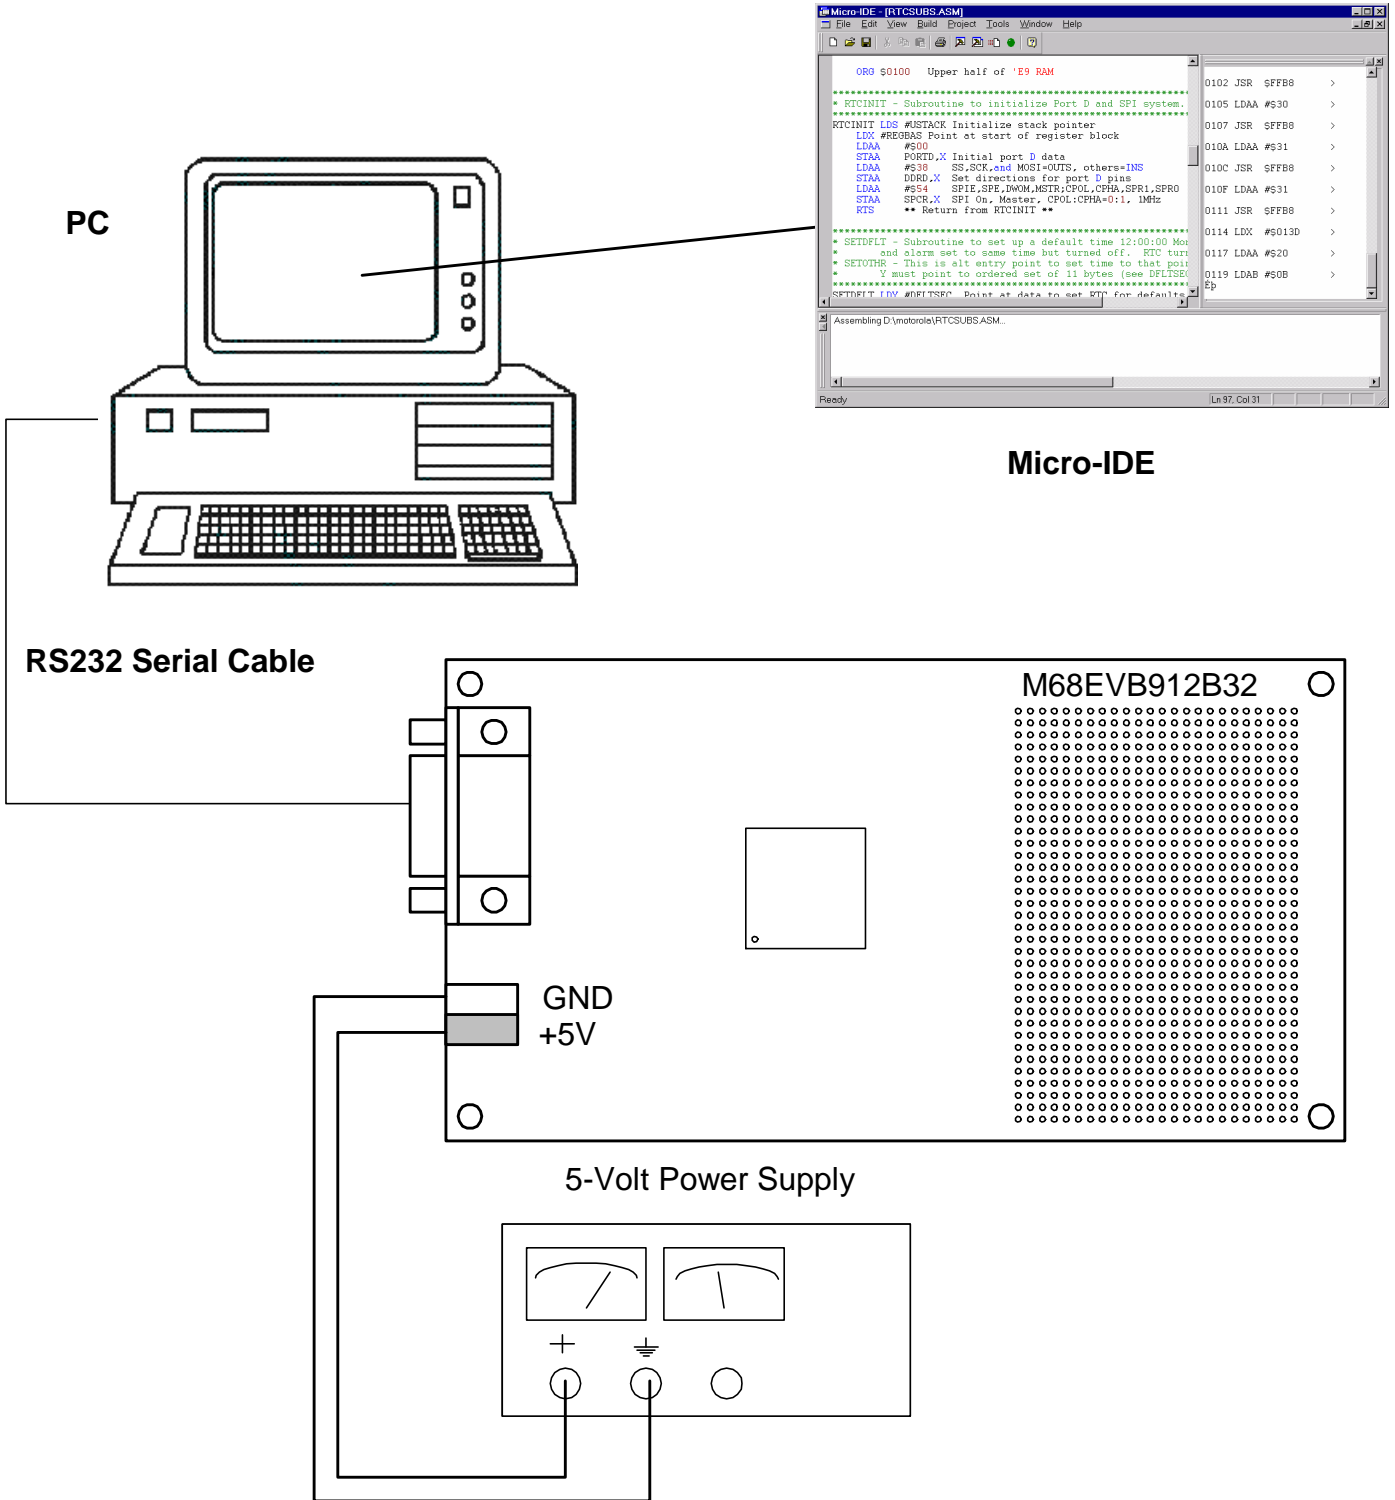

Figure 1
2. While the 5-Volt Power Supply is off, connect the power supply outputs to the Training Board Power Supply Connector (P5) as shown in Figure 1.
5. Connect the 9-pin serial connector (P1) on the M68EVB912B32 board to the PC's serial port using the supplied serial cable as shown in Figure 1.